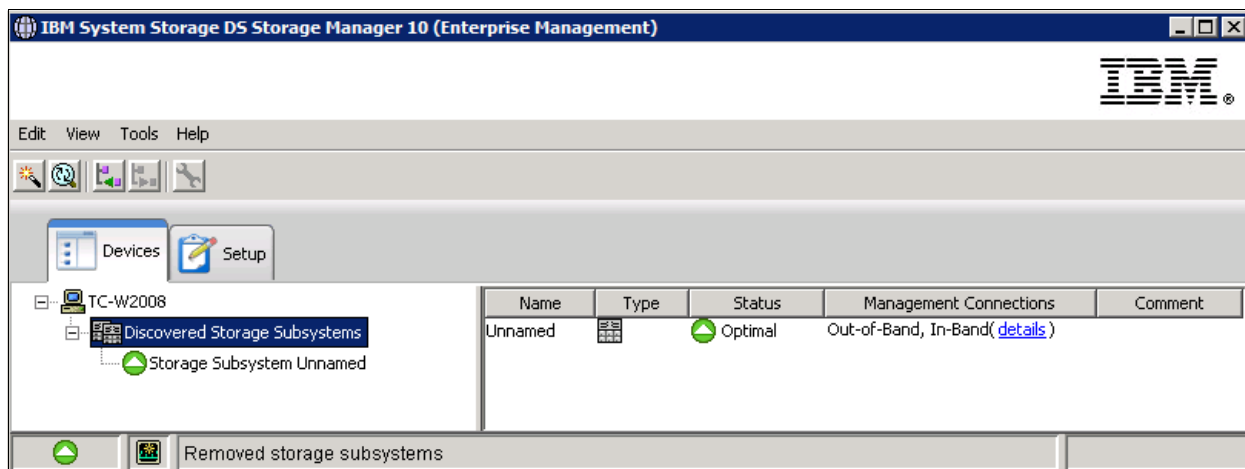

Figure 3-22 Managing a storage subsystem
- d. After successfully adding a storage subsystem, the Devices tab shows the new system as shown in Figure 3-22. Note that you can check the IP address of the managed system by selecting **Details** under Management Connections.